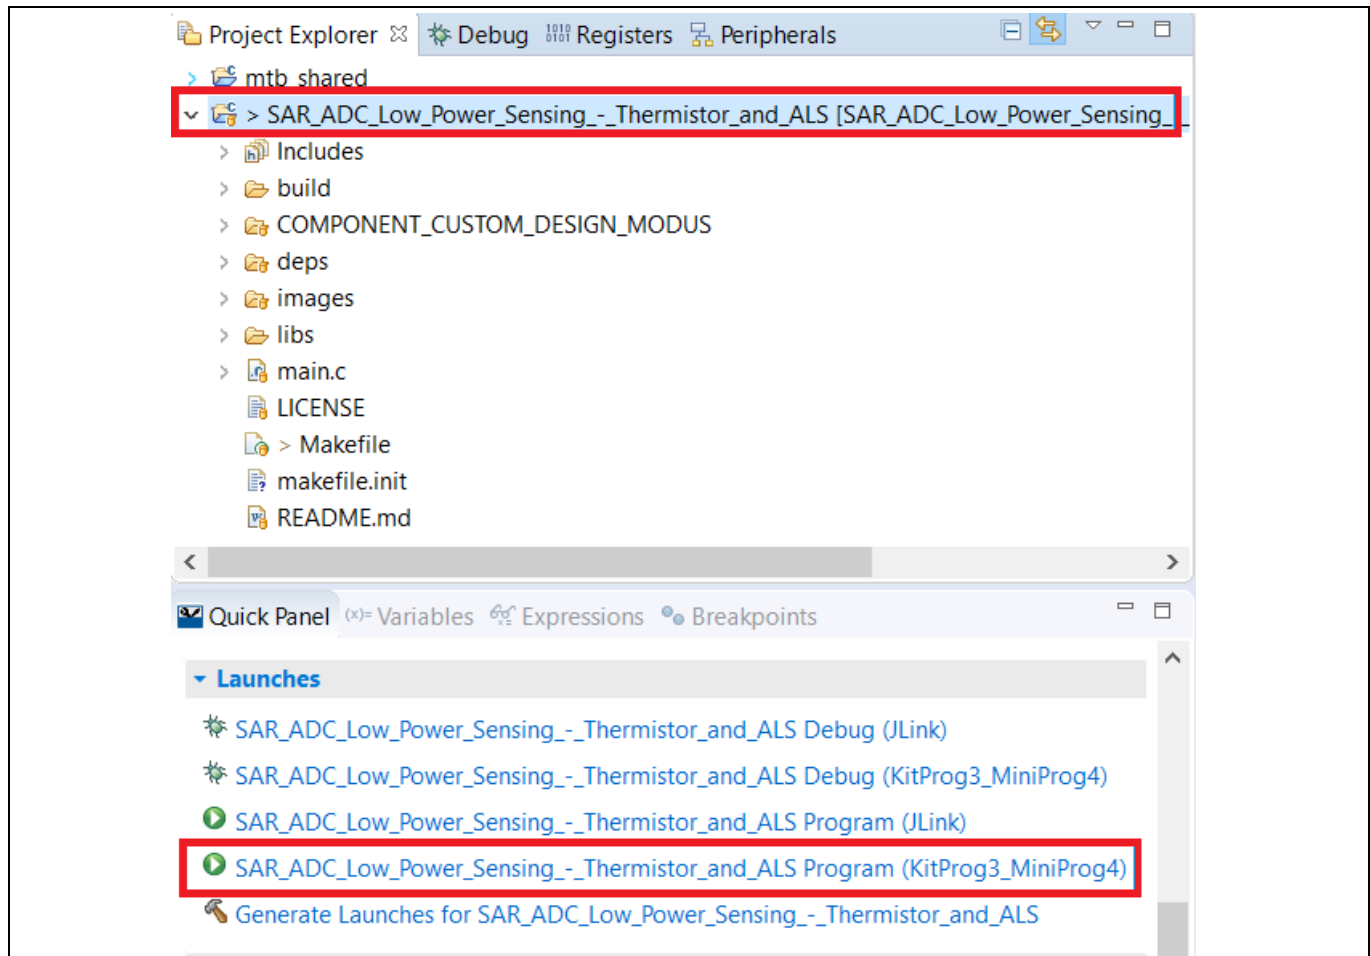

Figure 10 Build and Program the code example
3. To build and program a PSoC 6 MCU application, in the Project Explorer, select <App_Name> project. In the Quick Panel, scroll to the Launches section and click the <App_Name> Program (KitProg3_MiniProg4) configuration as shown in **Figure 10**.